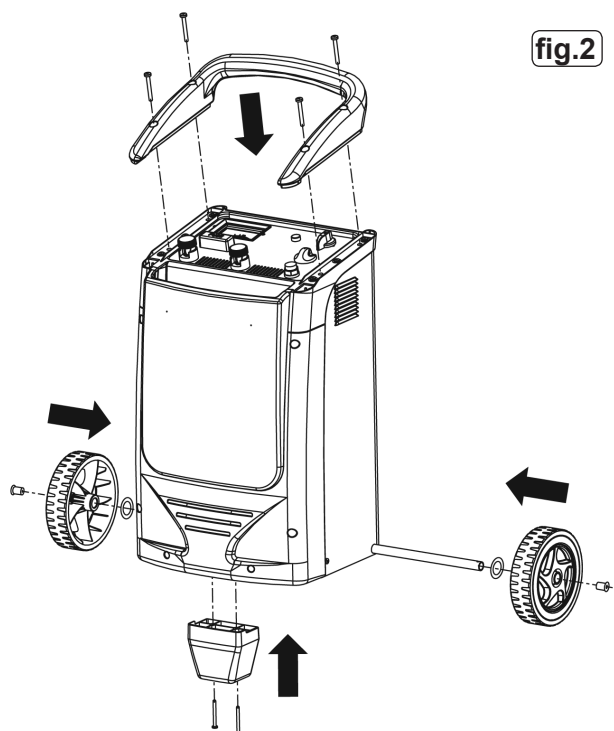

fig.2
3.1 GENERAL ASSEMBLY. Assemble the handle and foot to the main casing using the fittings provided as indicated in fig.2.
3.1.2 Attach the wheels using the fittings provided as indicated in fig.2.